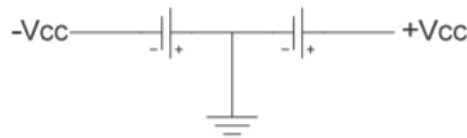

Figure 3-7 Power Supply Set-up
- Prepare the dc power supplies in the configuration of Figure 3-7. Adjust the power supplies so that $+V_{CC} = +15V_{dc}$ and $-V_{CC} = -15V_{dc}$.